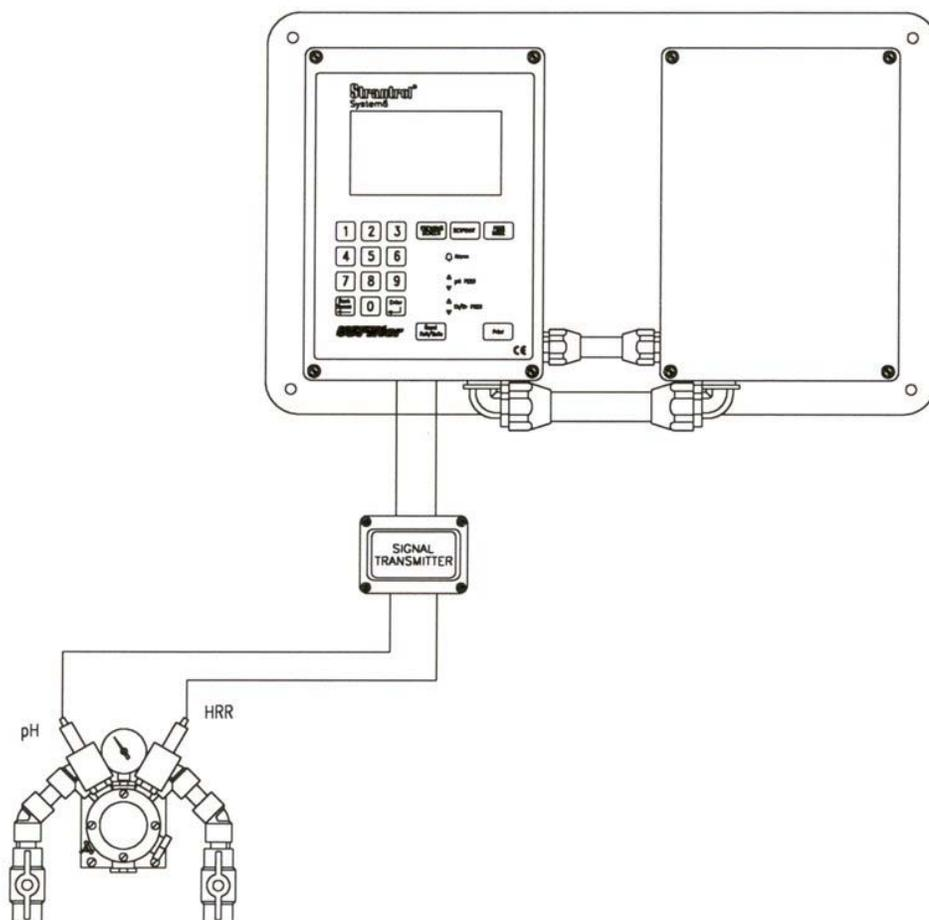

Fig 1.3
- Mount the flowcell next to the sampling point (after filter, before heater) of the recirculation system and run wires to the System6 using a Signal Transmitter (refer to Signal Transmitter). (Fig 1.3)